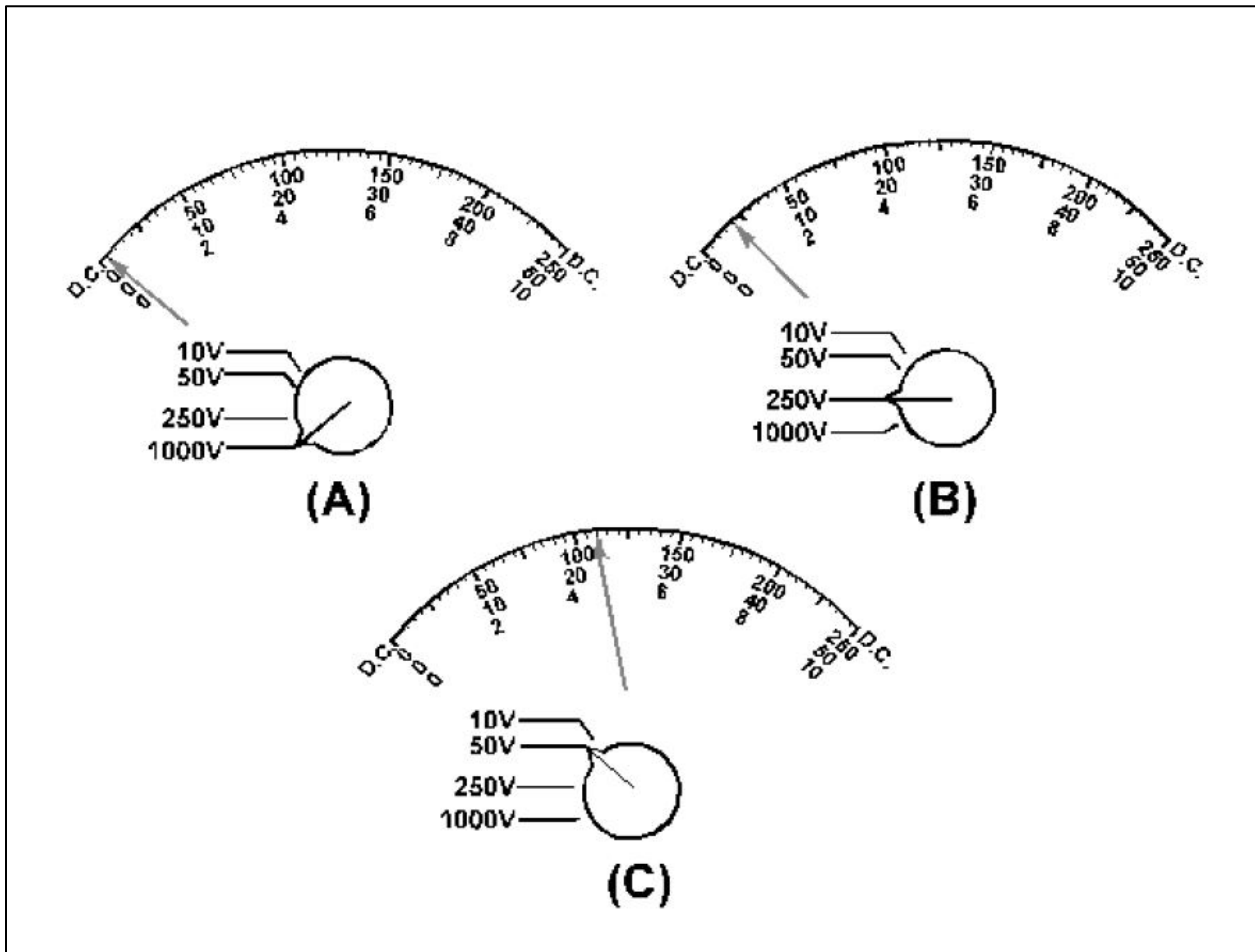

Figure 27: Reading a voltmeter at various ranges.
highest range of a voltmeter and switch the ranges until a reading is obtained near the center of the scale. Figure 27 illustrates these points.
In Figure 27(A) the meter is in the 1000-volt range. The pointer is barely above the 0 position. It is not possible to accurately read this voltage. In Figure 27(B) the meter is switched to the 250 volt range. From the pointer position it is possible to approximate the voltage as 20 volts. Since this is well below the next range, the meter is switched, as in Figure 27(C). With the meter in the 50-volt range, it is possible to read the voltage as 22 volts. Since this is more than the next range of the meter (10 volts), the meter would not be switched to the next (lower) scale.